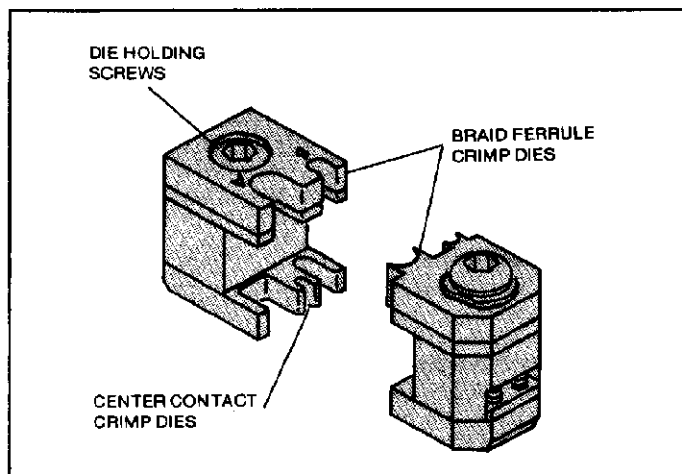

Figure 1
- (b) Each set of dies consists of a moving die and a stationary die. See Figure 1.
- (a) The die assemblies have two sets of crimping dies as shown in Figure 1. One set crimps the center contact; the other set crimps the braid ferrule.